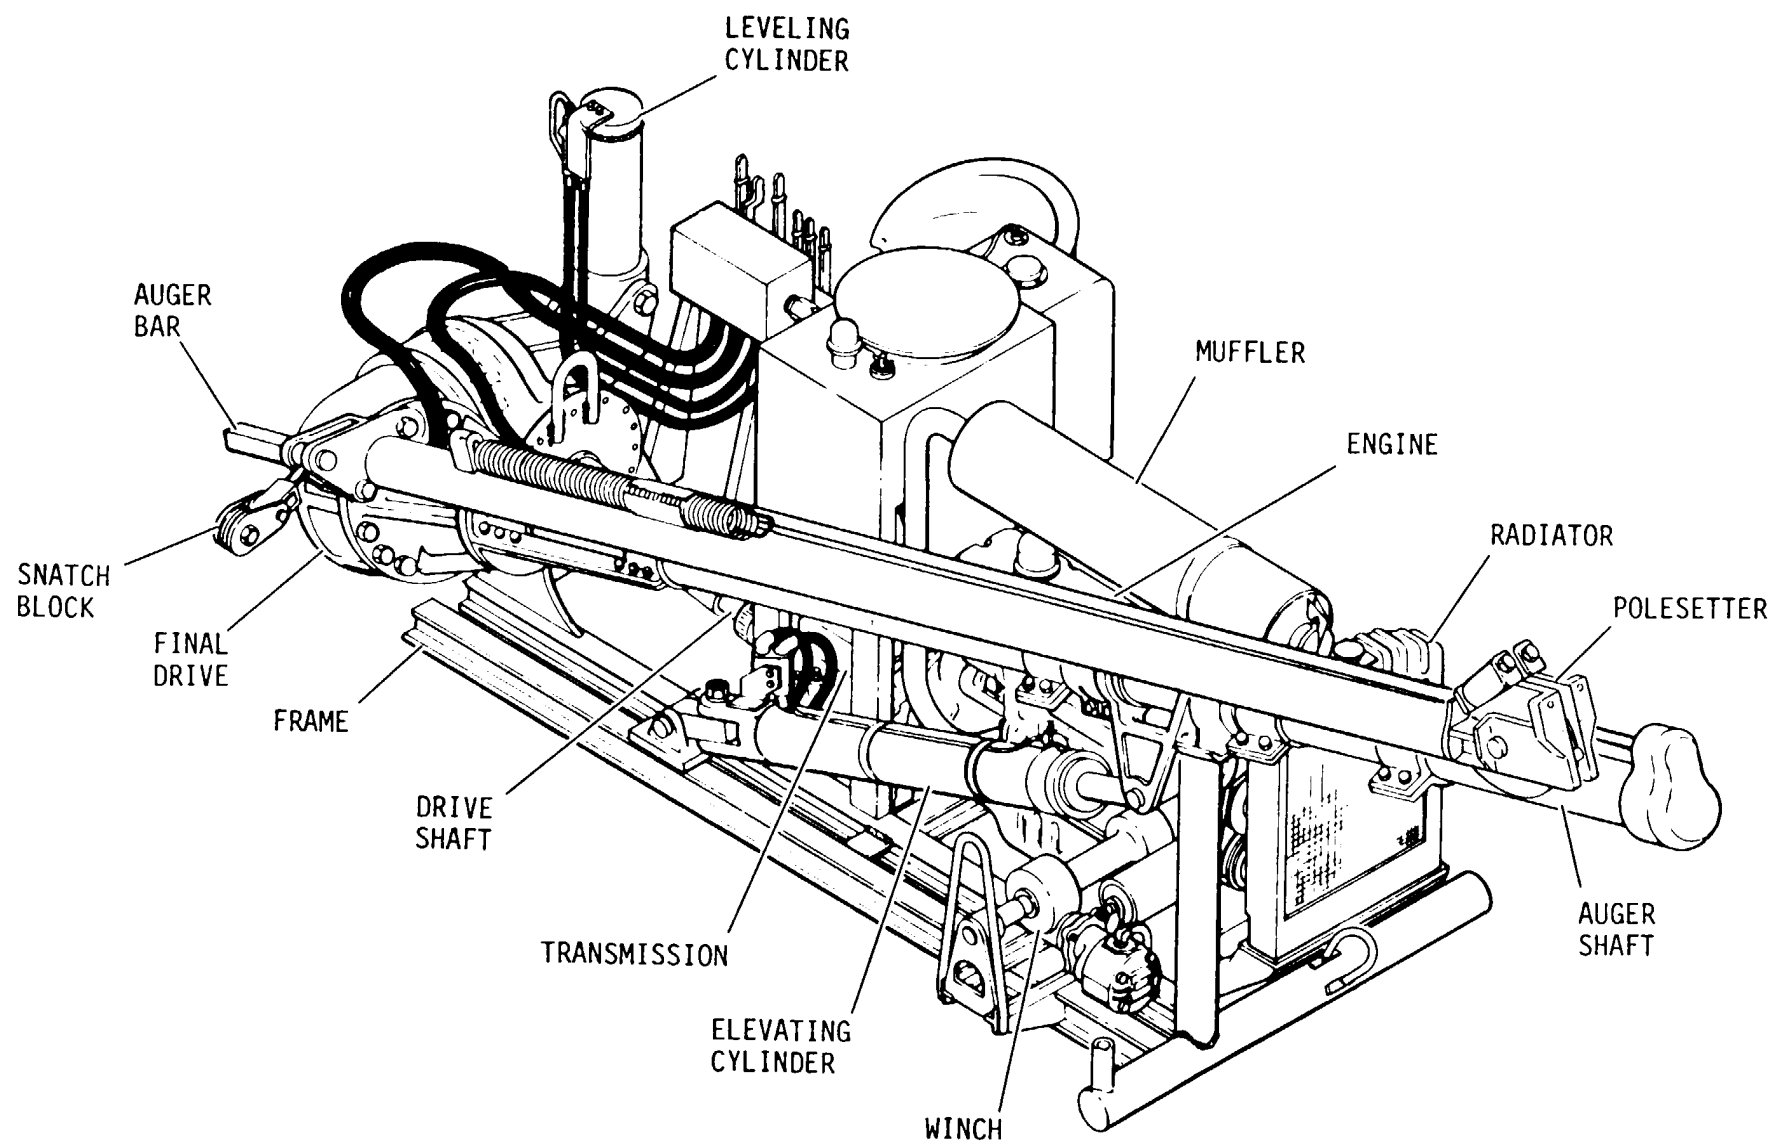

Figure 1-1. Earth auger, right front view (accoustical panels removed).
a. *General.* The Texoma Incorporated Earth Auger Model 254-9, illustrated in figures 1-1 and 1-2, is a self-contained, skid mounted, earth boring assembly driven by a gasoline engine, Ford Model 2004GF6006E). All operations of the boring assembly are controlled by a hydraulic system. The auger is capable of boring holes 9 to 24 inches in diameter and to a depth of 9 feet. The boring assembly can be operated from vertical downward to 60° away from truck, 45° to the right or left of truck, or 10° toward the truck.
(1) The hydraulic system incorporates load lock valves on both the elevating and leveling cylinders. These valves prevent the cylinders from retracting in event of hydraulic system pressure loss.